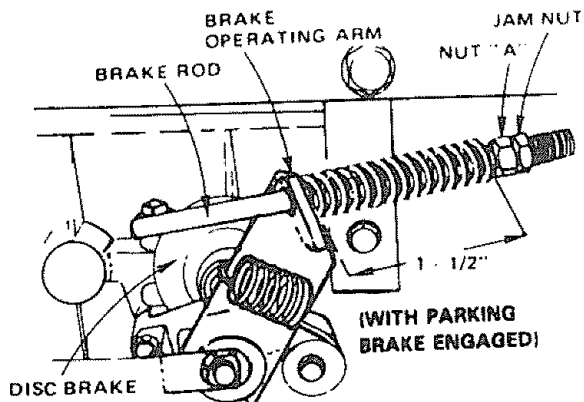

FIGURE 10
This tractor is equipped with an adjustable brake system mounted on the right side of the transaxle (Fig. 10).
- c. If distance is other than 1-1/2", loosen jam "A" nut (Fig. 10) and turn nut until distance becomes 1-1/2", Retighten jam nut against nut "A".